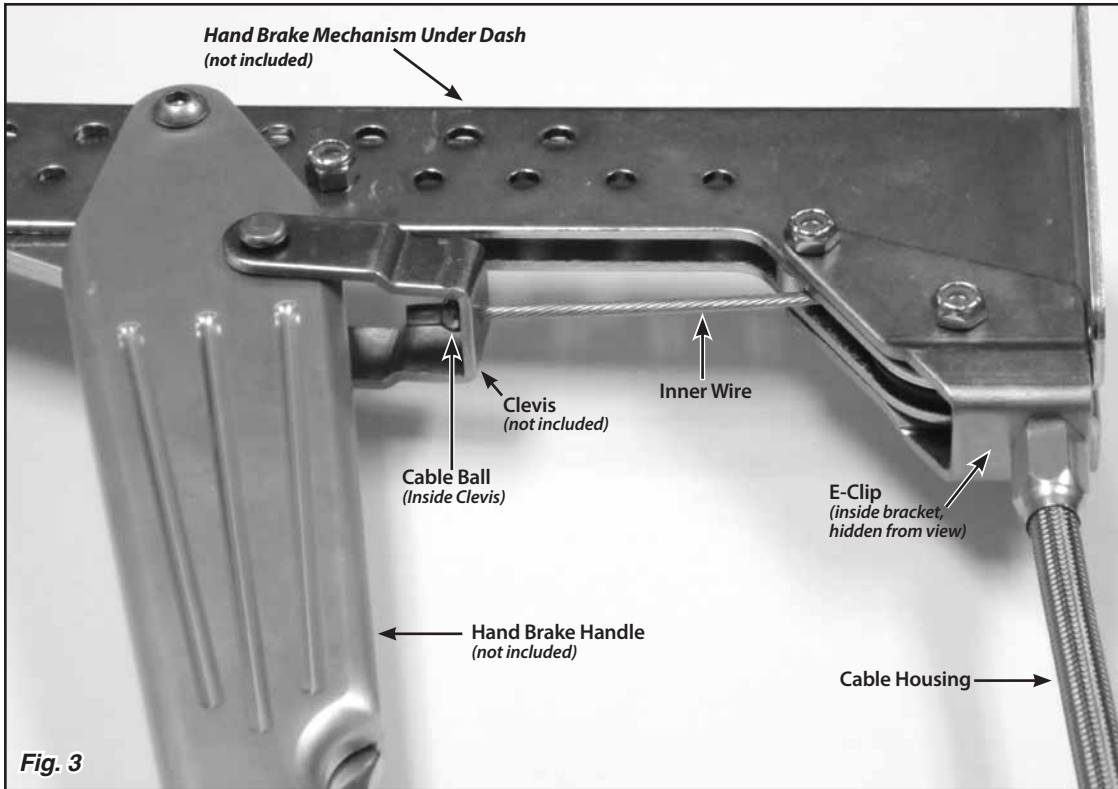
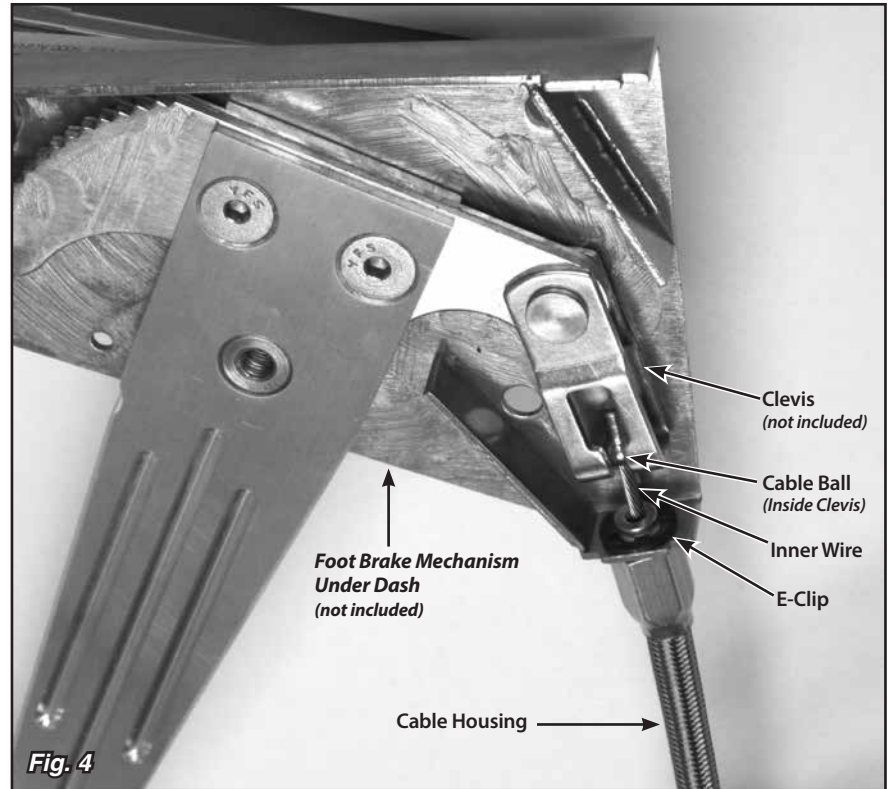

Fig. 3
Fig. 4
Step 2: Remove the E-clip from the end of the cable housing. Insert the cable housing into the hand or foot brake mechanism under the dash, and secure the cable housing with the E-clip as shown in Fig. 3 (Hand Brake) or Fig. 4 (Foot Brake).